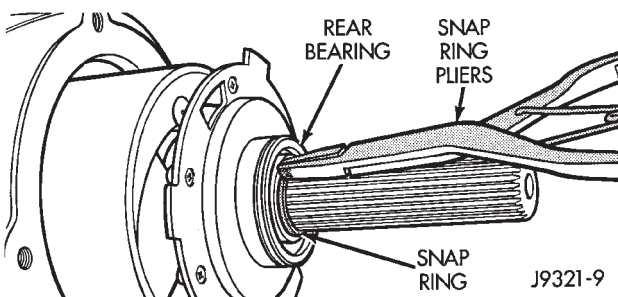

Fig. 91 Rear Bearing Snap Ring Installation
(4) Install rear bearing retaining snap ring (Fig. 91).